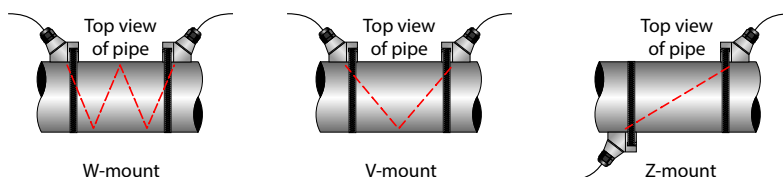

Fig. 38 Transducer mounting configurations
- 2) If the application requires a UTT10-050S, UTT10-050L or UTT10-050H transducer, select a mounting method for the transducer based on pipe size and liquid characteristics. Transducer configurations are illustrated in Fig. 38.